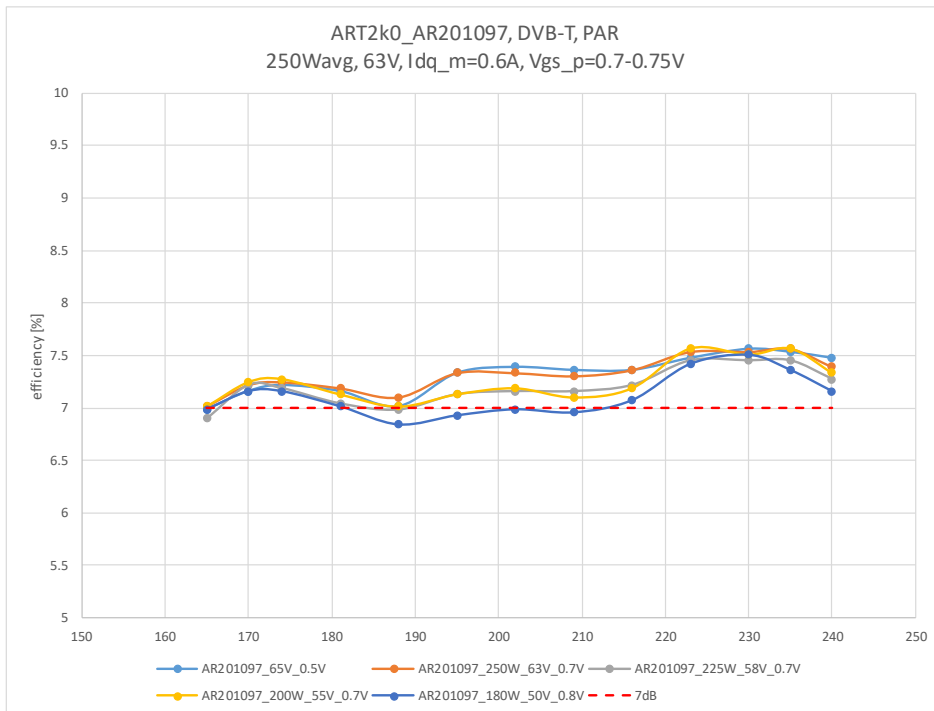

Figure 4 DVB-T, PAR (uncorrected) Vdd=50 – 65V
- Figure 4 DVB-T, PAR (uncorrected) Vdd=50 – 65V 7